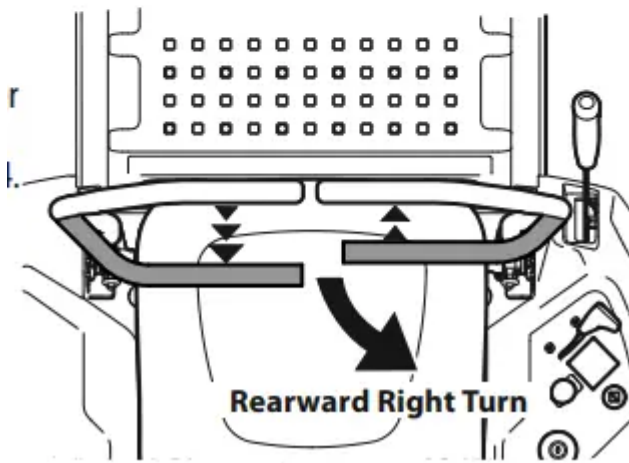

Figure 24
2. To turn to the right while traveling in reverse, move the right drive control lever forward of the left drive control lever. See Figure 24. The greater the distance between the two lapbar drive control levers, the sharper the tractor will turn.